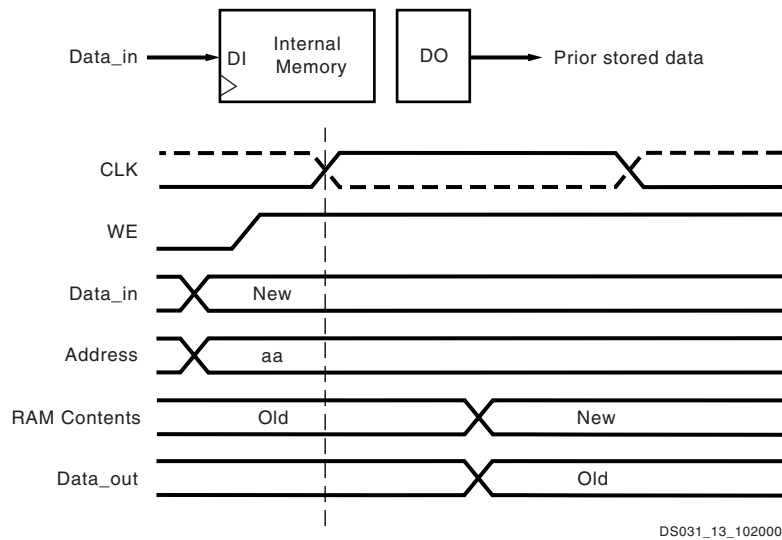

Figure 32: READ\_FIRST Mode
The same clock edge that writes data input (DI) into the memory also transfers the prior content of the memory cell addressed into the data output registers DO, as shown in Figure 32.